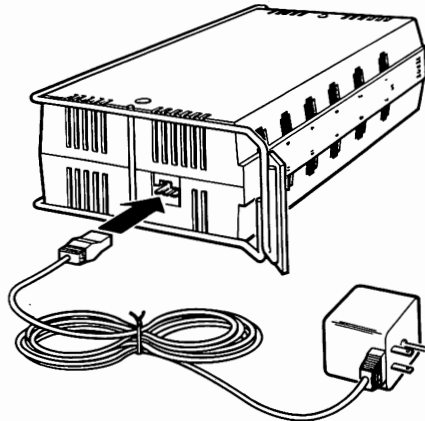

Fig. 2-5. Locate the connector on the bottom of the NEU.
5. Locate the three-pin connector on the bottom of the NEU (Fig. 2-5).
6. Plug the cord on the power transformer into this connector (Fig. 2-5).